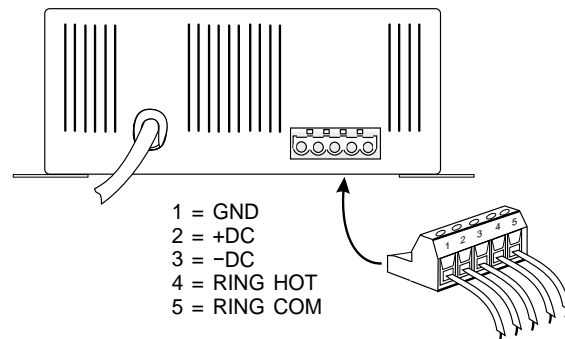

Figure 1 Model 702 cabinet showing 5-position plug-in terminal strip.
3.6 OUTPUT CONNECTIONS Before connecting to the DC and ring outputs ensure that the power cord is not plugged into the selected AC outlet. Be certain that neither of the status LEDs are lit. The DC and ring output connections are made via a 5-position plug-in terminal strip. The terminal strip is located on the bottom face of the unit, adjacent to the where the power cord exits the chassis, as illustrated in Figure 1.